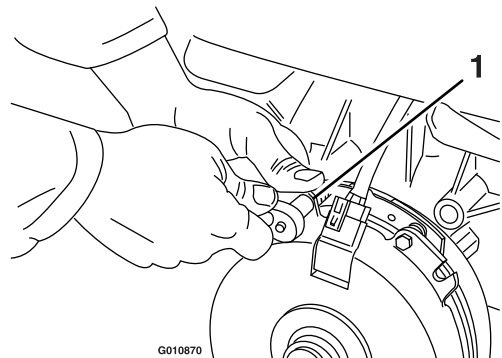

Figure 72
- A. Loosen both brake-mounting bolts 1/2 to 1 full turn as shown in Figure 72.